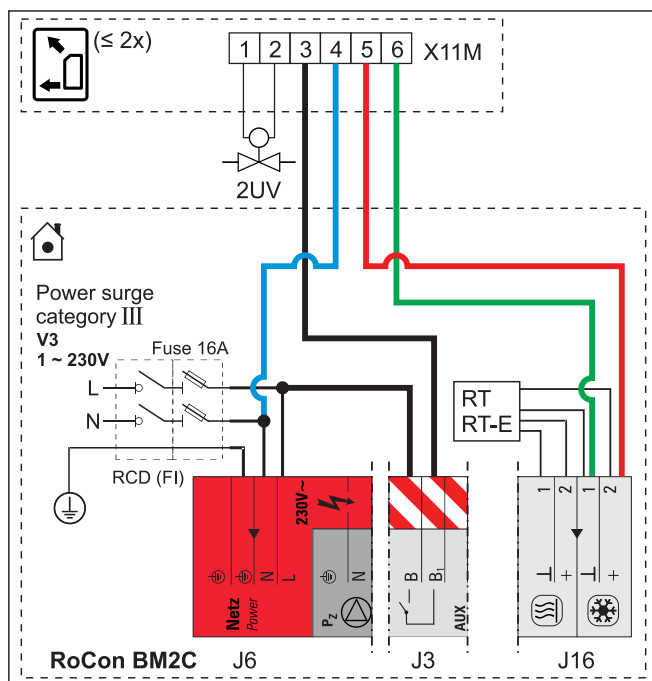

Fig. 4-41 Connecting the HP connector (max. 2) to the Daikin Altherma EHS(X/H)
- Electrical connection of the HP convector with the following accessories according to Fig. 4-41 as a switchover contact (heating/cooling).